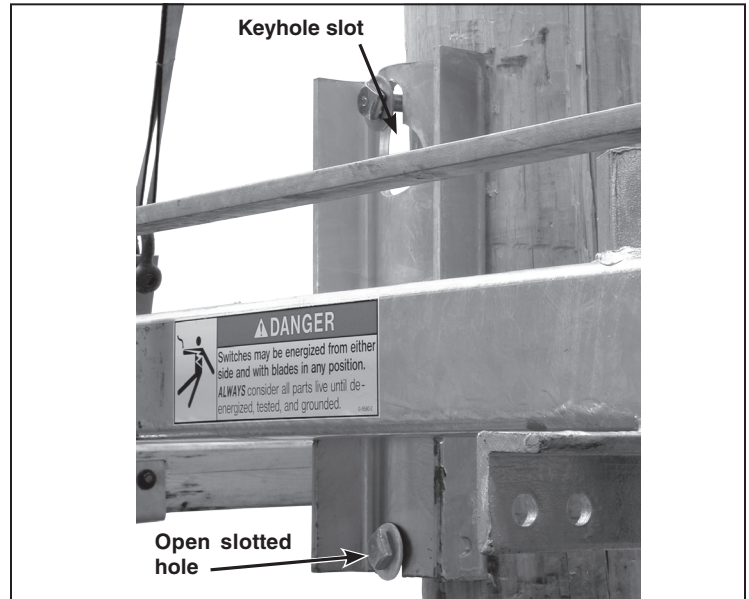

Figure 8. Guide the through-bolt through the keyhole slot.
STEP 6. Guide the switch so the through-bolt heads enter into the keyhole slot and open slotted hole in the switch base. See Figure 8.